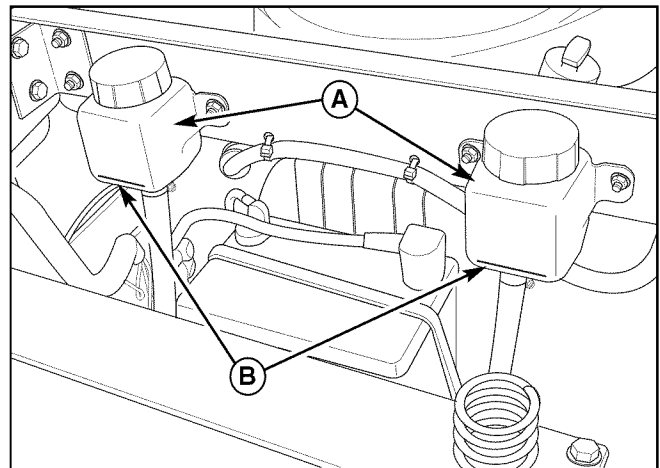

Figure 29. Transmission Oil Reservoirs
1. Check the oil level when the unit is cold. Raise the seat plate to gain access to the transmission oil reservoirs (A, Figure 29). The oil should be up to the “FULL COLD” mark (B). If the oil is below this level, proceed to step 2.
3. Add oil up to the “FULL COLD” mark (B, Figure 29).